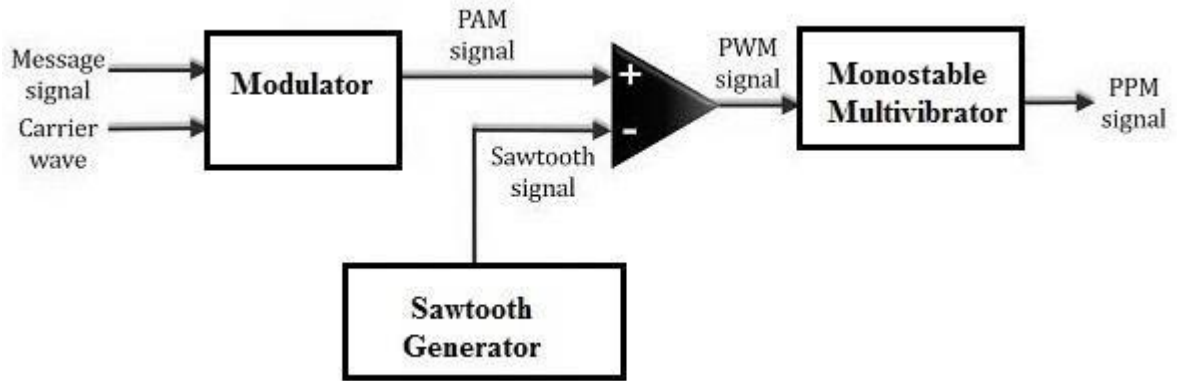

Figure 10.1: Generation of Pulse Position Modulation
Figure10.1 shows PPM generation in this PAM signal is generated from the modulator once, and further, it is processed at the comparator to produce a PWM signal. After that, the output of the comparator is given to a monostable multivibrator which is negative edge triggered. Thus, with the trailing edge of the PWM signal, the output of the monostable goes high. Thus, a pulse of the PPM signal starts by the trailing edge of the PWM signal. Here, it is to be noted that the high output duration mainly depends on the multivibrator's RC components. So this is the main reason why a stable width pulse is attained in the case of the PPM signal.
2. Make connections as per figure 10.1 .